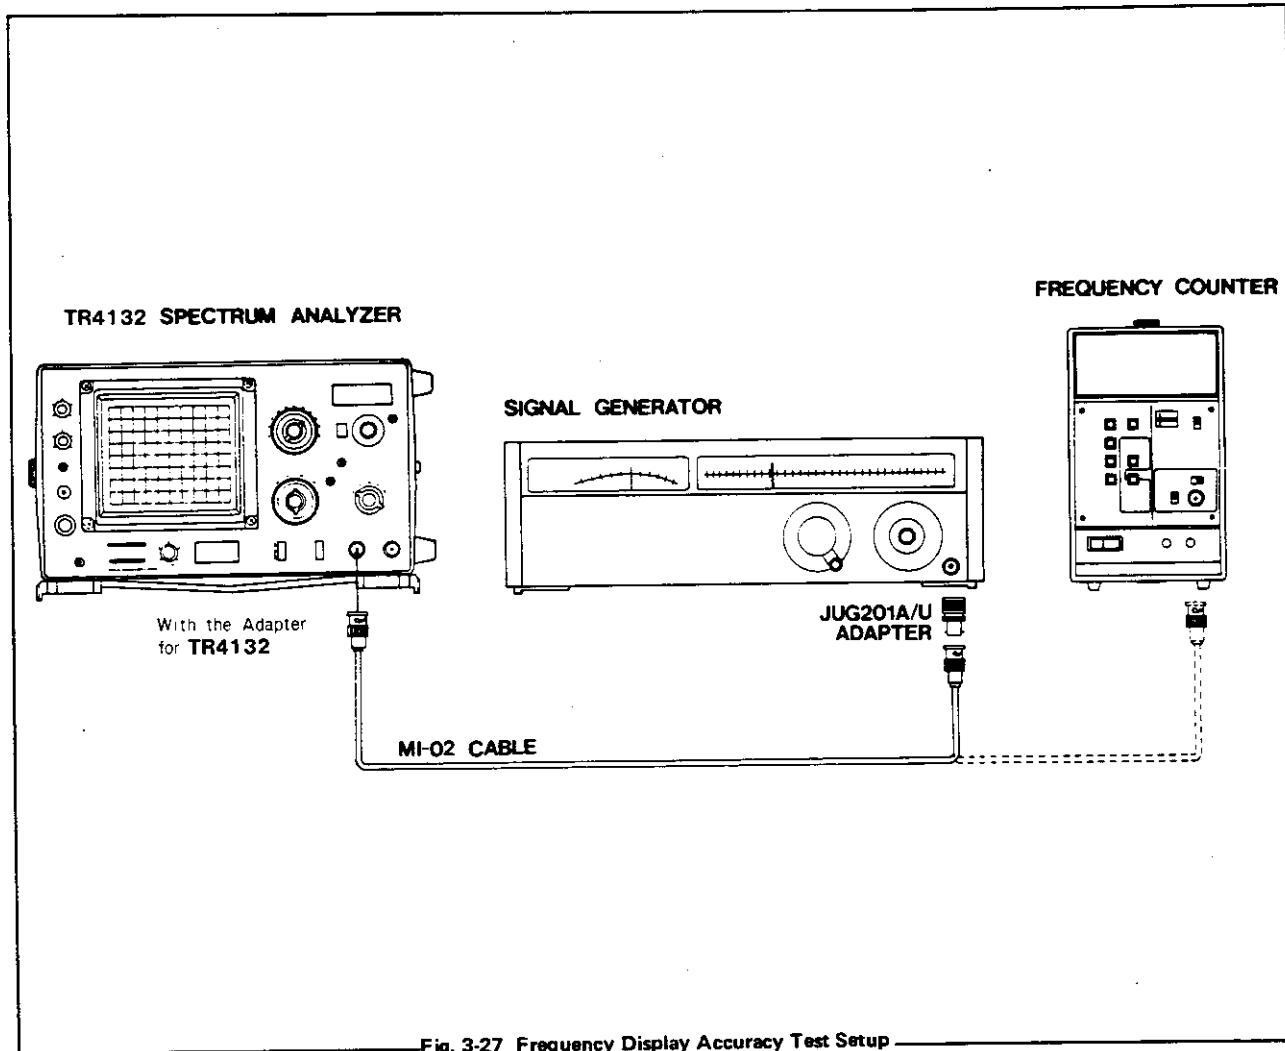

Fig. 3-27 Frequency Display Accuracy Test Setup
- (1) Set the Signal Generator output level to  $+120\text{dB}\mu$  and adjust the output frequency to  $100\text{MHz} \pm 50\text{kHz}$  with the Frequency counter.
- (2) Connect the Signal Generator output to **INPUT** of the instrument as shown in [Fig. 3-27]
- (3) Reset respective controls from the initial settings (Para 3-3-1-(3)) as follows:
- (4) Adjust **TUNING** to center the zero frequency (Local feed through)
- (5) Reset **DISPERSION/DIV.** to  $100\text{MHz}/\text{DIV.}$  and return it to  $5\text{MHz}/\text{DIV.}$
- (6) Adjust **TUNING FINE** to keep the zero frequency to the center.
- (7) Adjust **ZERO ADJ.** if necessary so that **CENTER FREQUENCY** indicates  $100\text{MHz}$ .
- (8) Turn **TUNING** to locate the  $100\text{MHz}$  signal and its harmonics one after the other to the center. Repeat the same procedure to the 10th harmonic, and read respective indication on **CENTER FREQUENCY**.
- (9) Verify that the indication error for  $100 \times N$  (where  $N$  is the corresponding harmonic from 1st. to 10th.) is within  $\pm 10\text{MHz}$ .
- (10) Next, turn **TUNING** counter-clockwise and repeat the same procedure as in (8) and (9) above. Read the error and also verify that it is within  $\pm 10\text{MHz}$